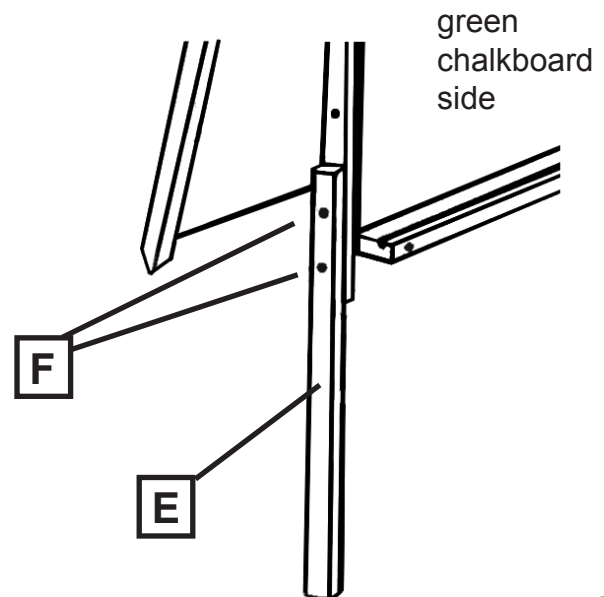

FIG 1.
1. Attach 2 bottom legs (E) to green chalkboard side of upper easel assembly (L), using 4 ea. 3/16" x 2" bolts (F) and tighten with washers (H) and wing nuts (I). **See FIG 1.**